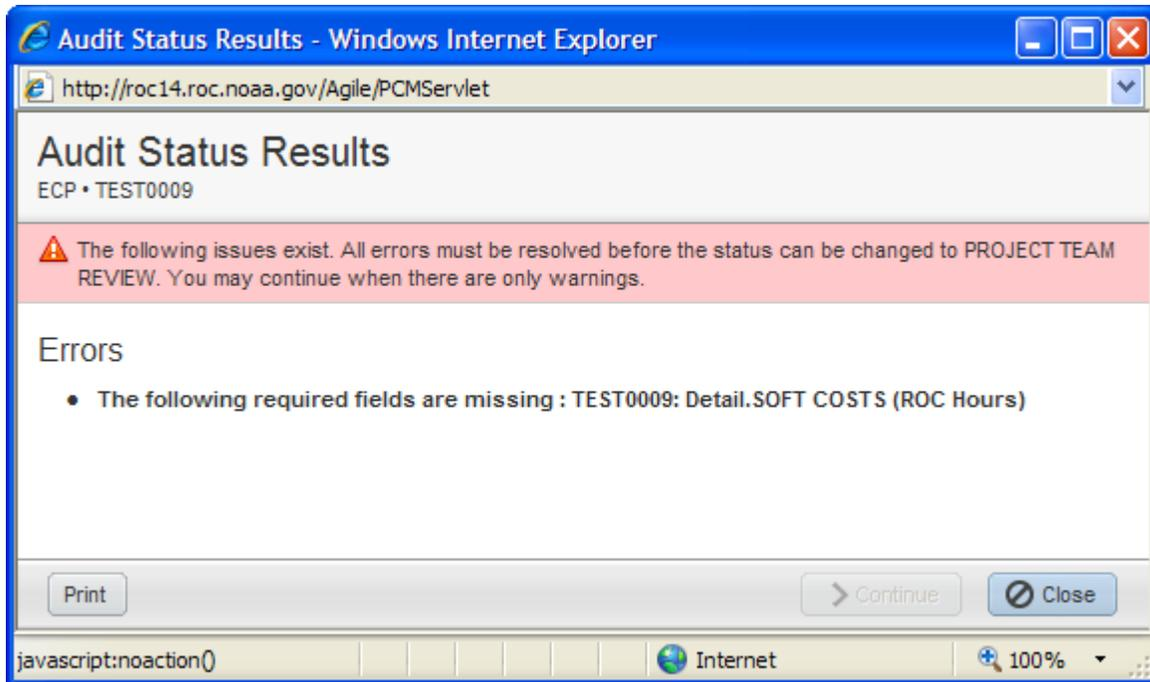

Figure 18: Audit Status Results window.
4. The **Audit Status Results** window will be displayed (Figure 18). Any required fields that were not populated will be discovered during the audit and displayed in the Audit Status Results window.